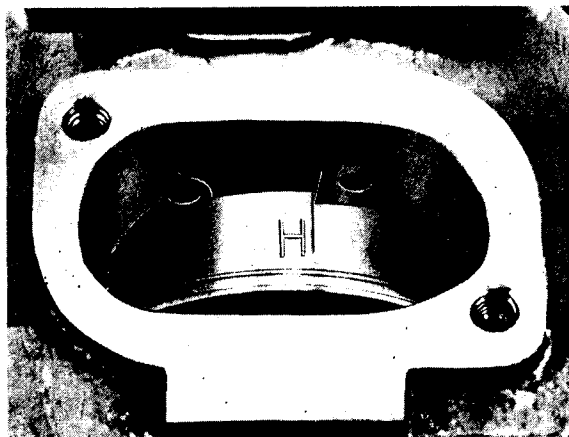

Fig. M.10.
On the fuel pump rotor, inside the fuel pump, are a number of scribed lines, each one bearing an individual letter. A timing circlip is positioned inside the pump body which has to be set so that when the appropriate scribed line on the fuel pump rotor aligns with the squared end of the circlip, it denotes commencement of injection (static timing). Fig. M.10.
7. Remove the inspection plate on the fuel pump enabling the rotor to be seen (Figs. M.10 and M.11).